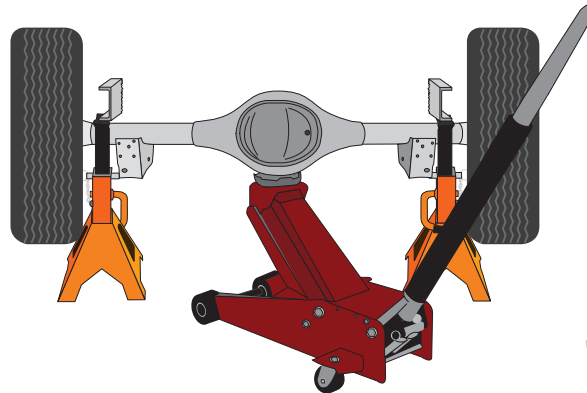

fig. D.1
1. Raise the vehicle and support it in a way, using jack stands or equivalent, so that the axle can be safely dropped away from the frame. This needs to be done in order for the air spring assembly to be put into position between the axle and frame (Fig. D.1).